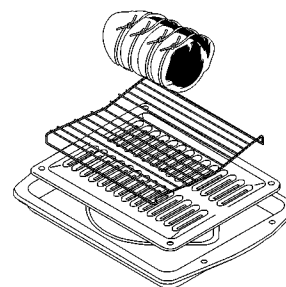

Figure 35: Broil pan, insert, and roasting rack
4. Place meat (fat side up) on insert (Figure 35). Place prepared food on oven rack and slide into oven.
- Use the broiler pan and insert, as well as the roasting rack (Figure 35) (some models). The broiler pan will catch grease spills, and the insert will help prevent splatters. The roasting rack will hold the meat.
- Always use the broiler pan and its insert when broiling, if included. It allows the dripping grease to be kept away from the high heat of the broil element (Figure 35).